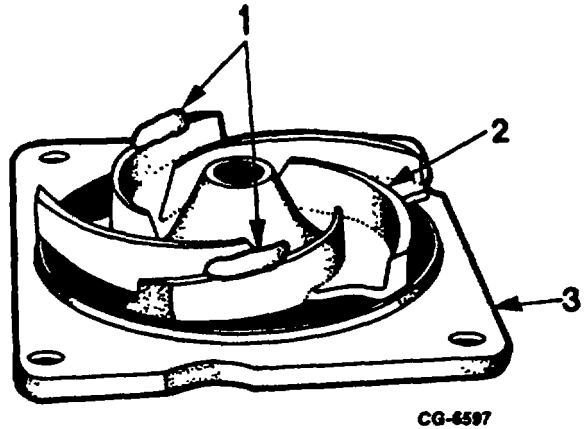

Figure 166. Moulding Clay Mounted on Impeller Vanes to Check Impeller Clearance
- a. Position suitable amount of moulding clay on two impeller vanes (Figure 166).